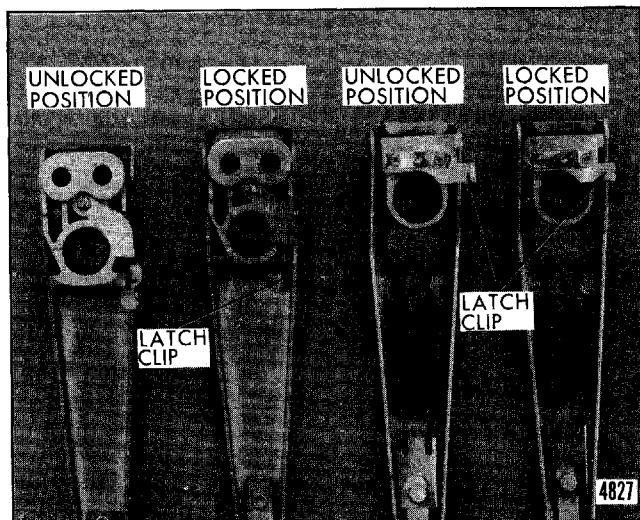

Fig. 2-58-Wiper Arm Latch Clips - E Styles
9. On E styles, align keyway in right wiper arm assembly to transmission shaft and install arm assembly to shaft (Fig. 2-58).